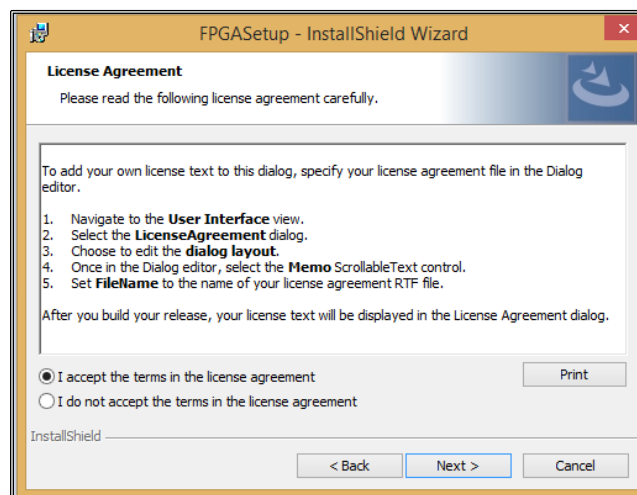

Fig A.4
Step 5: Accept the license agreement (Fig A.4). Click **Next**.